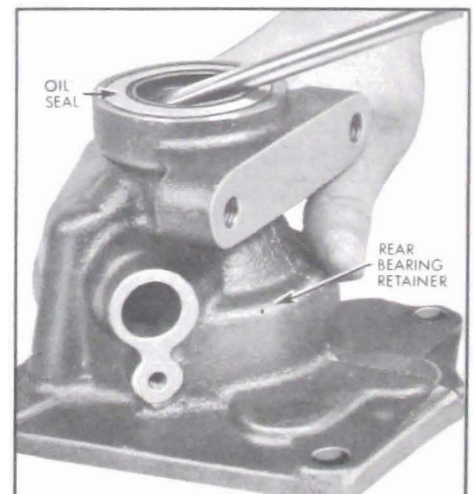

Figure 4-17—Removing Rear Bearing Retainer Oil Seal
4. Remove rear bearing retainer and gasket. Remove speedometer worm gear from main shaft. Pry oil seal from retainer. See Figure 4-17.